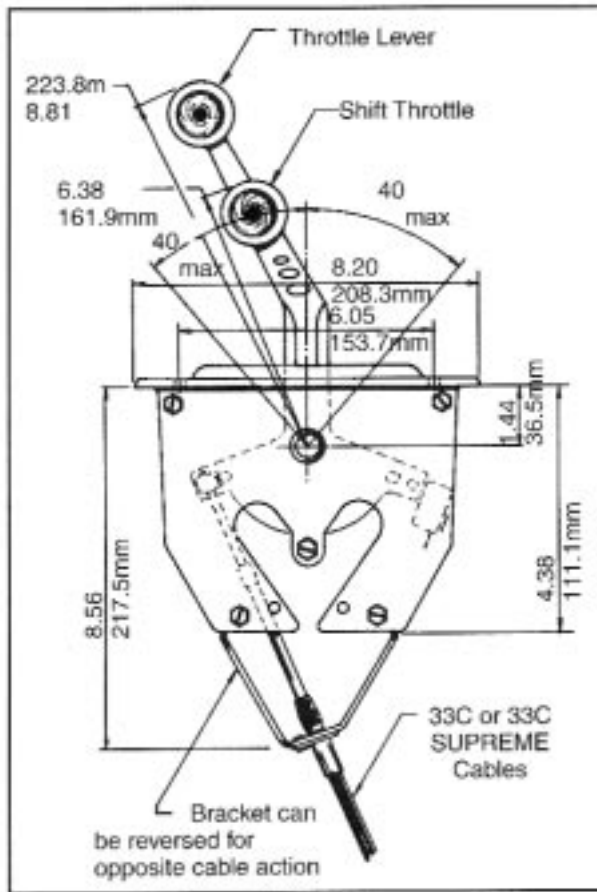

FIGURE 1
1. Adequate space for comfortable operation of the throttle and shift levers through their full range of movement. Refer to Figure 1 for control dimension.